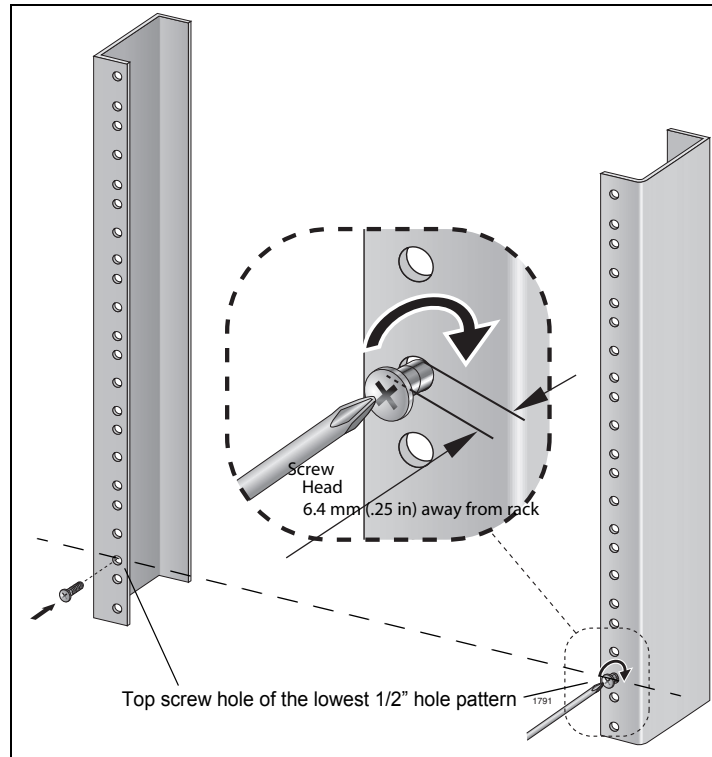

Figure 22. Rack Mounting Hole Locations
2. Identify the lowest 1/2" screw hole pattern on the rack mounting rails within the space reserved for the AT-SBx3112 Chassis. Install one rack mount screw in each vertical rail - at the same height in the top screw hole of the lowest 1/2" hole pattern as displayed in Figure 22. The screws are used to support the chassis while you secure it to the rack.